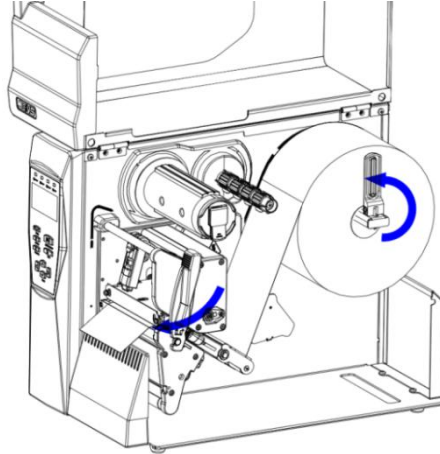

Fig. 2.4.3
- 3) Turn the right paper guide (13) leftward to make it vertically and abut the paper roll (ensure the paper roll can rotate smoothly), and turn the print head uplifting spanner (16) forward to press down the print head. Detail operation refers to the Fig. 2.4.3.